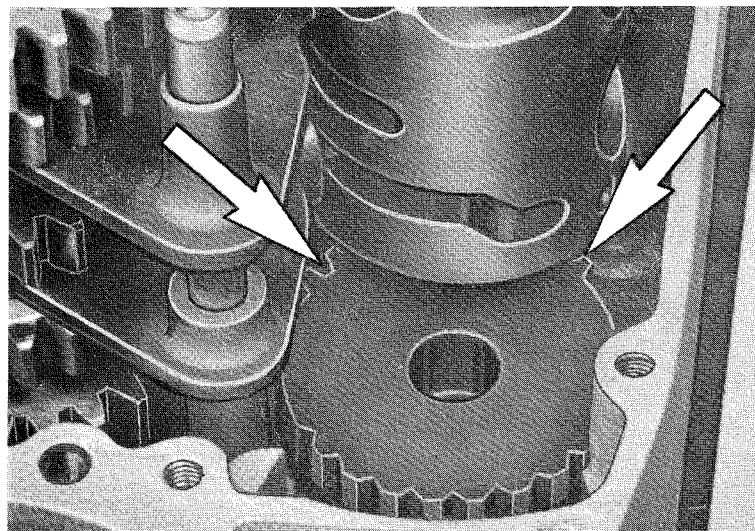

Fig. 24
24. When 3rd gear is engaged, the stepfeeder shall be in mesh so that one tooth is visible on the right side and two teeth on the left side of the shifting drum. See Fig. 24.